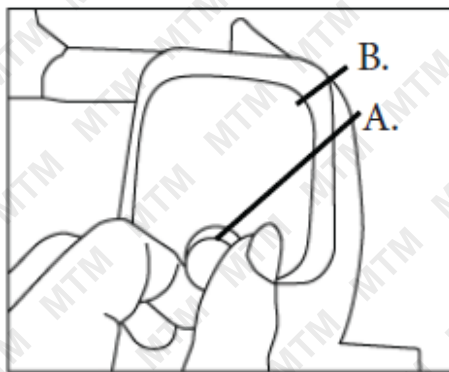
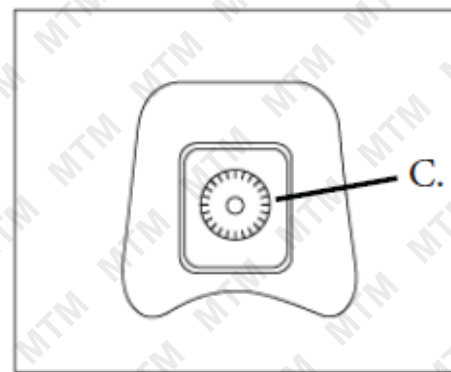

Fig.20
Fig.21
1. Loosen the knob (A) holding the air filter cover in place, remove the cover (B) and lift the filter (C) from the air box (Fig. 20 and Fig. 21).